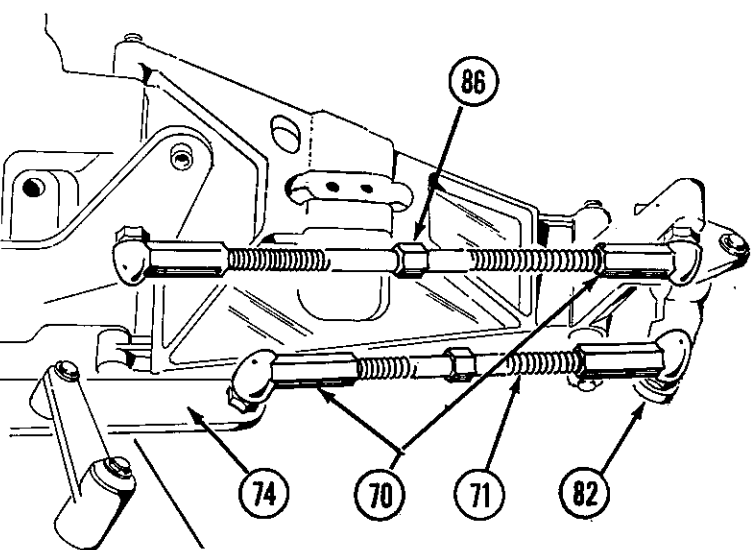

FIG. 38
15. Snap one adjustable rod end (70) on 1 7/8" turnbuckle onto 3/16" studded ball joint (72) in the end of steering sector arm (74). Snap opposite end onto spindle (81) (82) arm. Fig. 38.
16. Snap one adjustable rod end (70) on 1 1/2" turnbuckle onto end of 3/16" studded ball joint (72) in front shock tower (9). Snap free end onto 3/8" studded ball joint (55) in spindle carrier (83). Fig. 38.